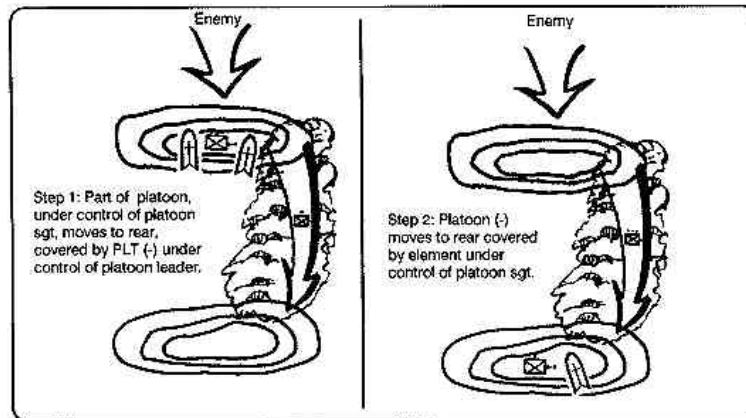

Figure 3-33. Example of withdrawal under enemy pressure.
(1) *Conduct of withdrawal under enemy pressure.* This is the most difficult and least desired method (Figure 3-33). In this type of withdrawal, the platoon, employing fire and maneuver, literally fights its way back from the enemy. The use of Dragons to support this type of maneuver is slightly different from employment in offensive maneuver. There is a need to have Dragons with both covering and maneuvering elements to ensure continuous antiarmor coverage.